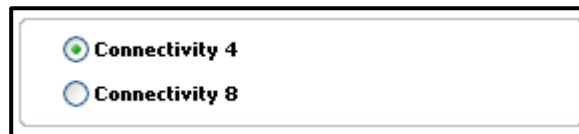

Figure 36. Set connectivity.
4. Select connectivity [Figure 36]: